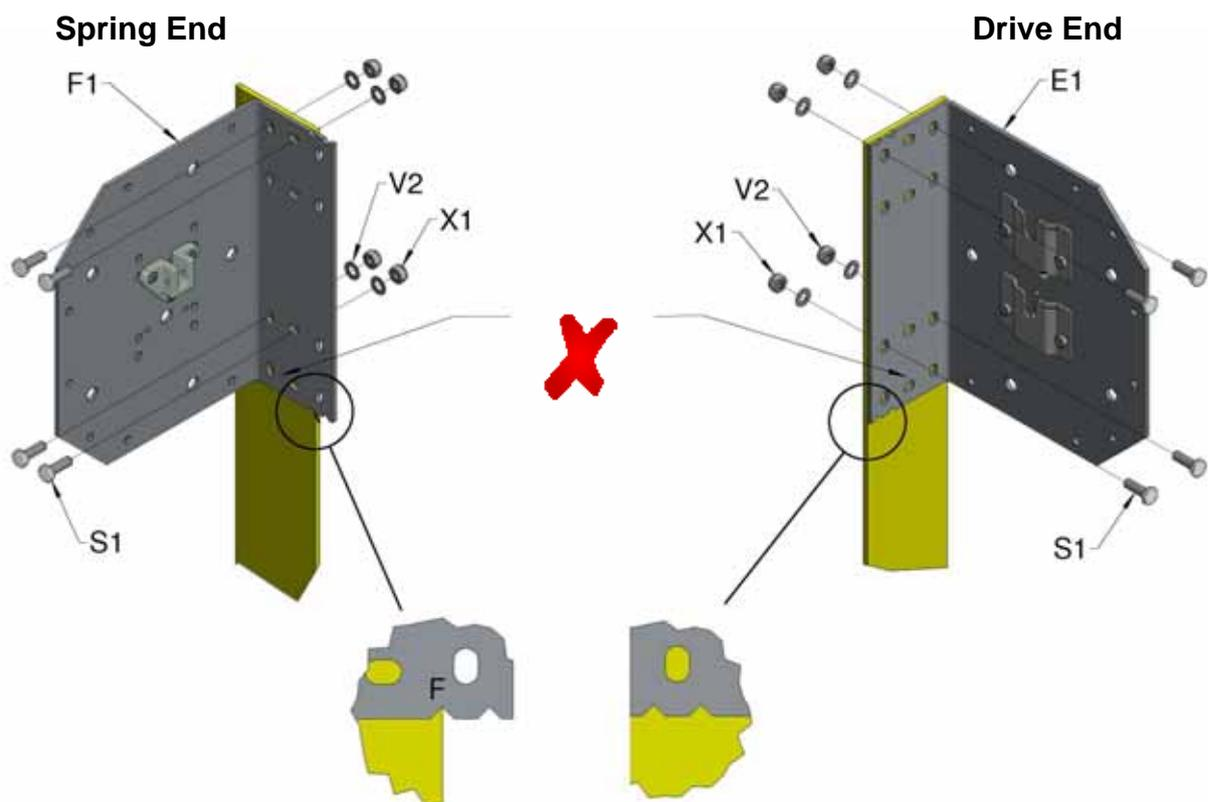

Figure 3, Top Bracket Positioning
2. Using the template, fit the spring bracket (F1) and drive end bracket (E1) at the required height with M10 fixings (S1). Do not use the bottom set of holes, the fixings may interfere with the rolling action of your door. The door has been designed such that the tops of the guide rails are fitted directly underneath the brackets (Figure 3), aligning with the letter 'F' for the free-end bracket and the bracket edge for the drive end. When fitting the brackets it is essential that they are **level and upright and square to the building**.